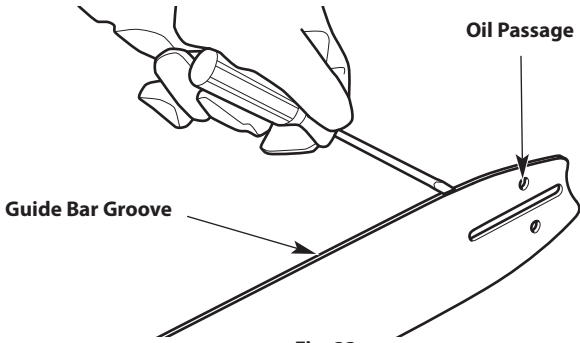
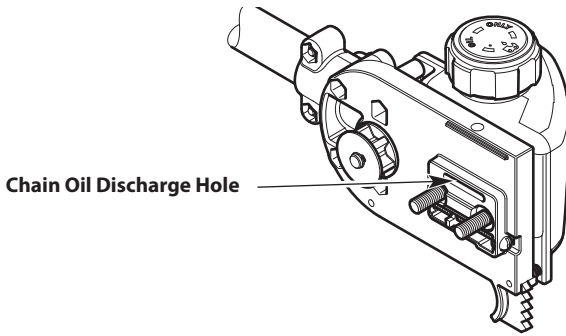

Fig. 23
Fig. 24
2. Clean the guide bar groove and oil passages whenever the saw chain is removed, when the unit has been used heavily or when the saw chain appears dirty. Use a screwdriver, putty knife, wire brush or similar instrument to remove debris from the guide bar groove (Fig. 23). Use a small, soft wire to remove any debris from the chain oil discharge hole (Fig. 24).